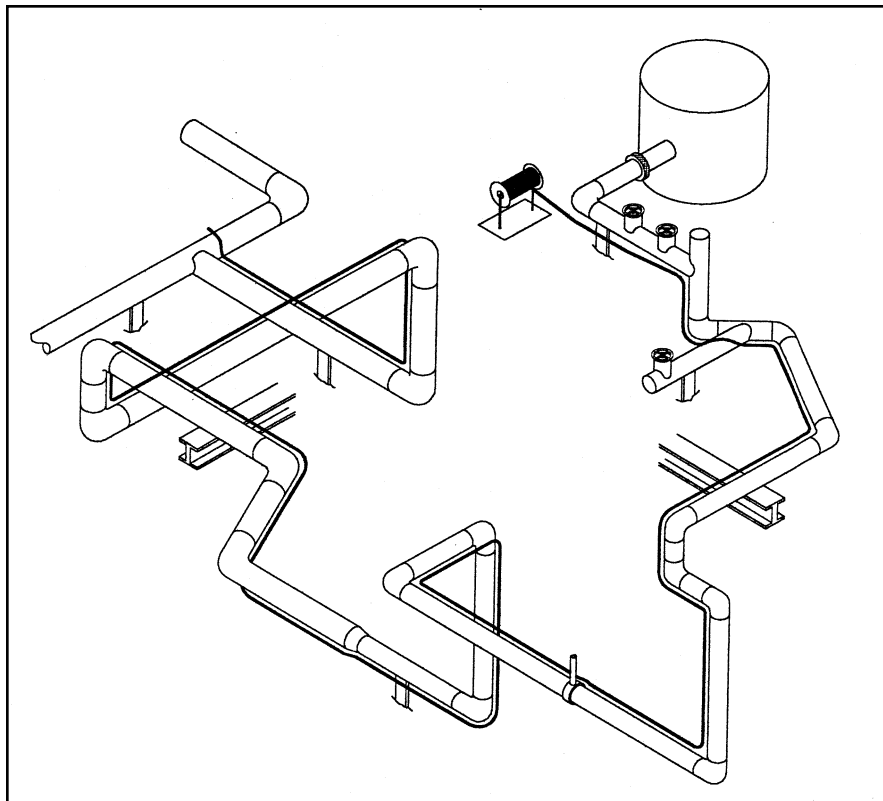

Figure 5.1.1. Paying out the cable
- b) Pay out the cable and loosely string it along the pipe, making sure that the cable is always next to the pipe when crossing obstacles. If the cable is on the wrong side of a crossing pipe or I-beam, it will be necessary to reinstall it or cut and splice it (see Figure 5.1.1 for a general layout).